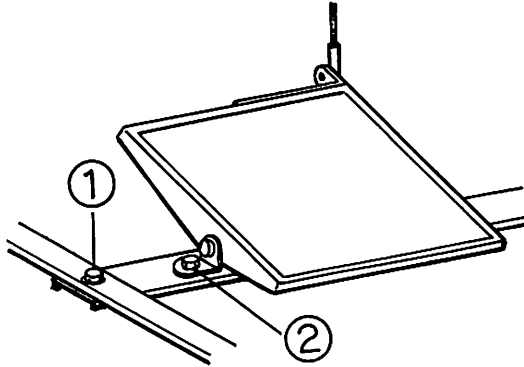

Fig. 4
Fore and aft position of the pedal is adjusted by loosening the screw ① and left and right position is adjusted by loosening the screw ②. (Fig.4)